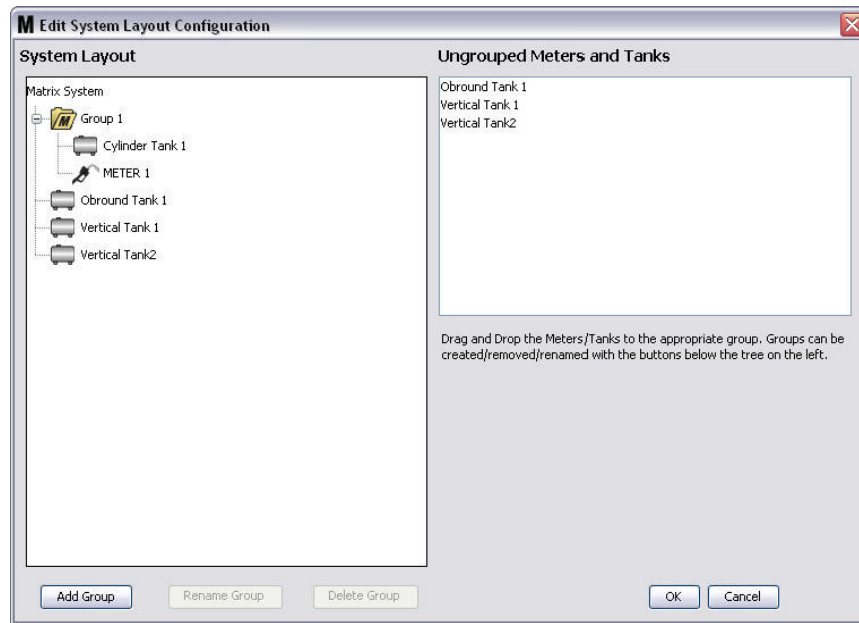

FIG. 129
- The selected tanks and meters now appear under the folder icon on the Matrix System side of the screen as shown in FIG. 129.
- To Rename a group, use your mouse to select the group folder on the list on the Matrix System side of the screen. Click the Rename Group button (FIG. 129).
11. To Delete a group, use your mouse to select the group folder on the Matrix System side of the screen. Click the Delete Group button (FIG. 129).